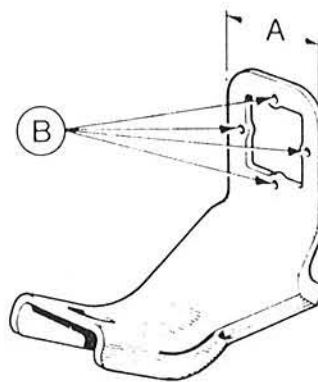

Fig. 3.26 Accelerator cable removal tool (Sec 17)
- 7 Using a screwdriver, depress the plastic tabs on the retainer while twisting the retainer, then pull from the mounting bracket. If this proves difficult make a removal tool to the dimensions given in Fig. 3.26, and press this onto the tabs to release them.